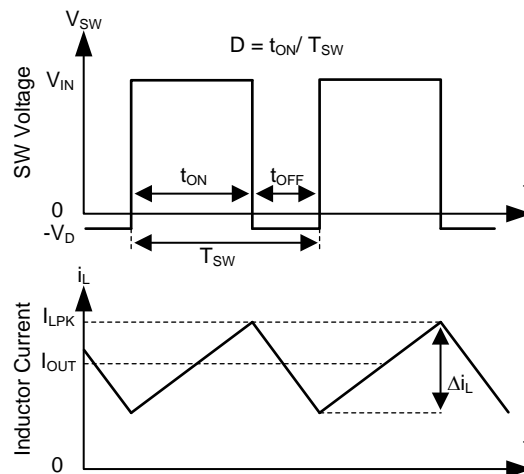

Figure 13. SW Node and Inductor Current Waveforms in Continuous Conduction Mode (CCM)
The following operating description of the LMR23615 refers to the Functional Block Diagram and to the waveforms in Figure 13. The LMR23615 device is a step-down, synchronous buck regulator with integrated high-side (HS) and low-side (LS) switches (synchronous rectifier). The LMR23615 supplies a regulated output voltage by turning on the HS and LS NMOS switches with controlled duty cycle. During high-side switch ON-time, the SW pin voltage swings up to approximately V_{IN} , and the inductor current I_L increase with linear slope $(V_{IN} - V_{OUT}) / L$. When the HS switch is turned off by the control logic, the LS switch is turned on after an anti-shoot-through dead time. Inductor current discharges through the LS switch with a slope of $-V_{OUT} / L$. The control parameter of a buck converter is defined as duty cycle $D = t_{ON} / T_{SW}$, where t_{ON} is the high-side switch ON time and T_{SW} is the switching period. The regulator control loop maintains a constant output voltage by adjusting the duty cycle D . In an ideal buck converter, where losses are ignored, D is proportional to the output voltage and inversely proportional to the input voltage: $D = V_{OUT} / V_{IN}$.